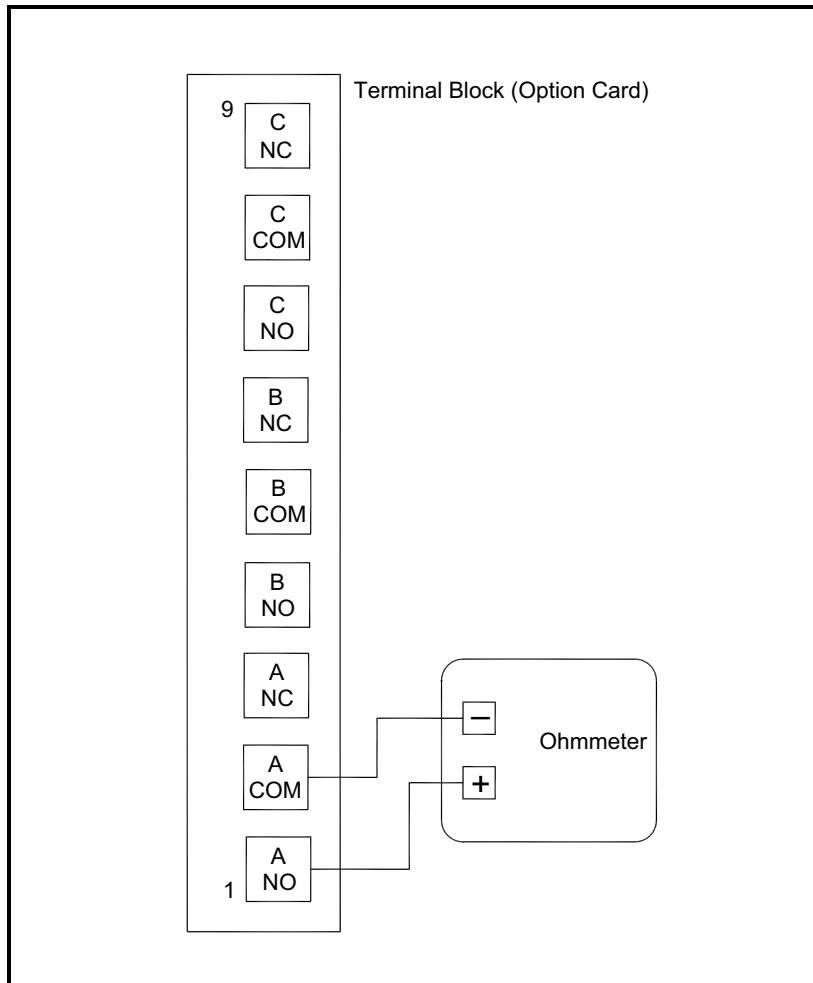
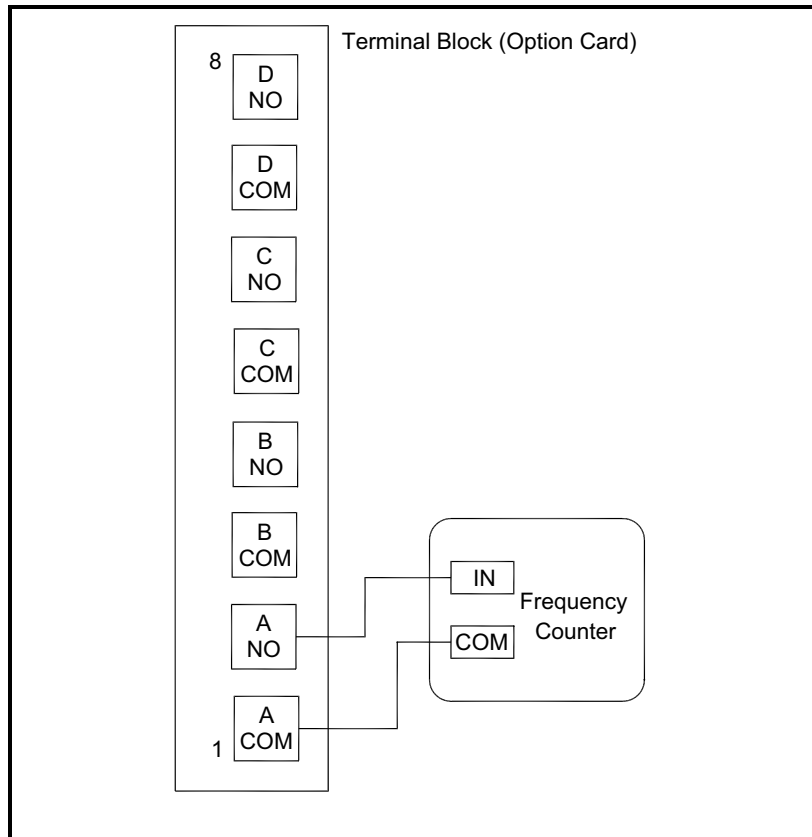
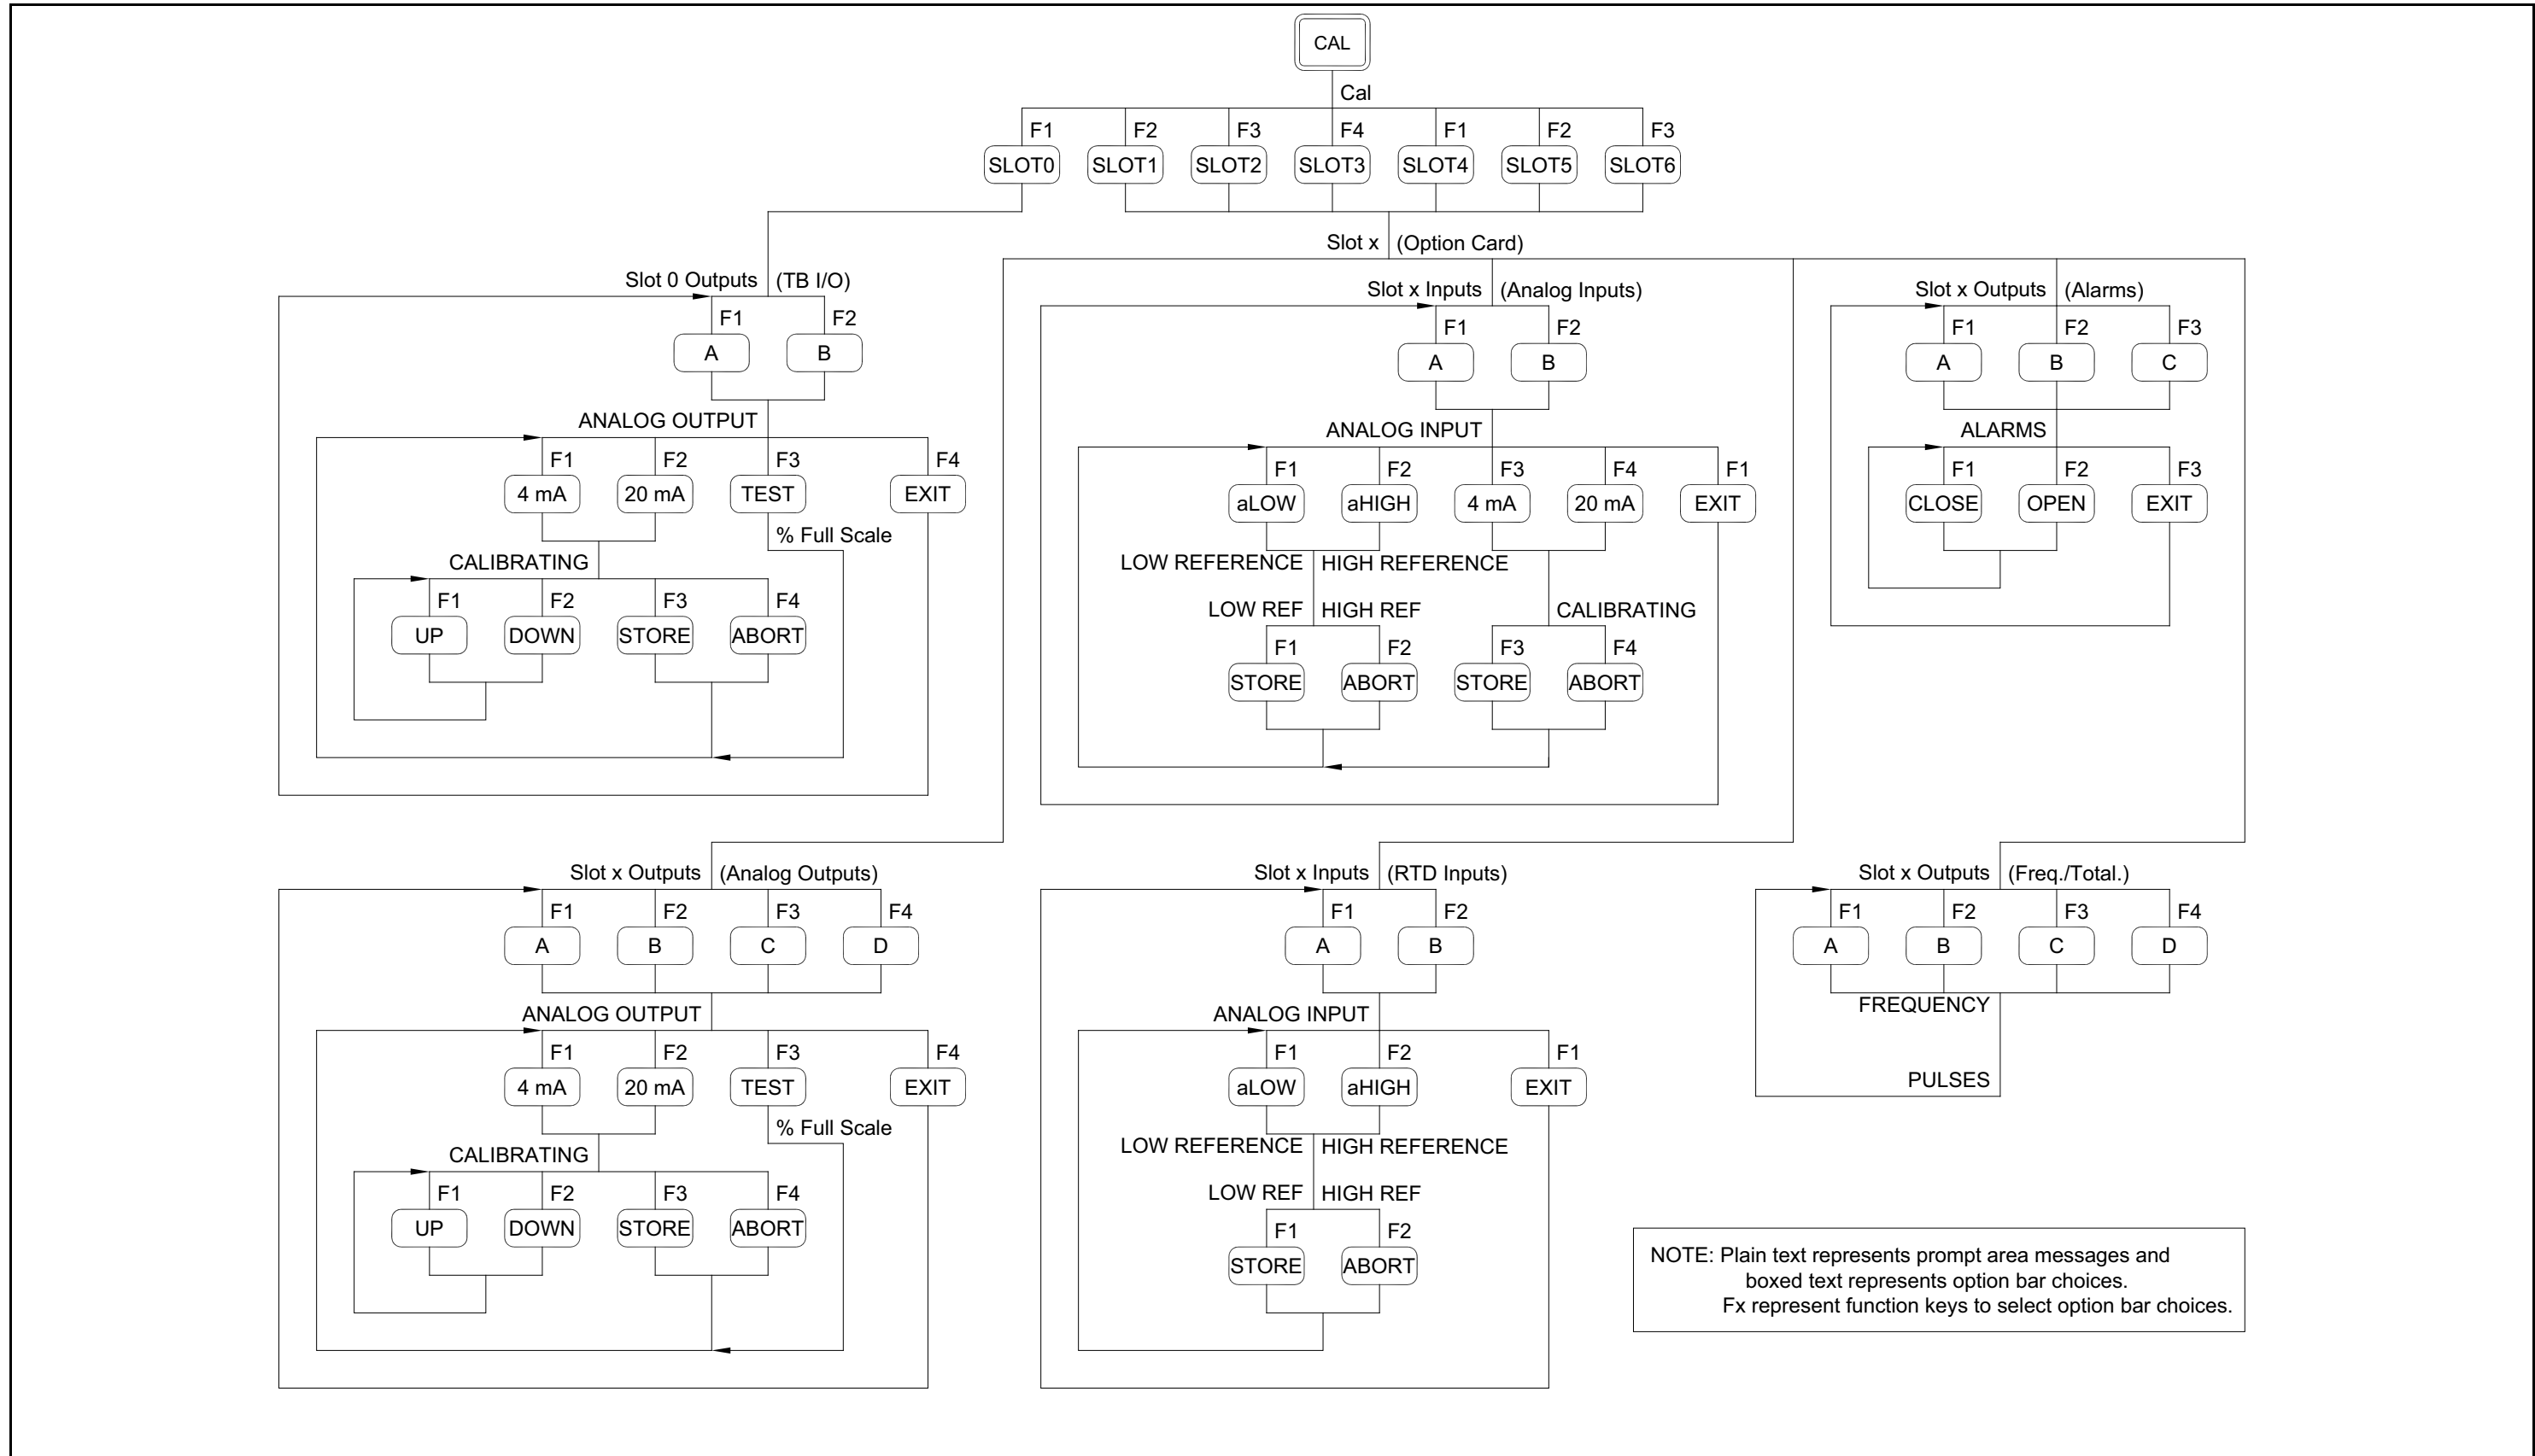

Figure 4: Typical Ohmmeter Connections
Figure 5: Frequency Counter Connections
Figure 6: Calibration Menu Map
Connect the **Slot X** analog output(s) (or an independent calibrated current source) to the analog input(s) on the option card, as shown in Figure 3 below. Refer to the menu map in Figure 6 on page 13 as a guide.
Alarm relays may be added to the Model DF868 by installing an *Alarms Option Card* in one (or more) of the six expansion slots. Each option card includes three alarm relays, which are designated as A, B, and C. To test the alarm relays, connect an ohmmeter to the option card terminal block as shown in Figure 4 below. Refer to the menu map in Figure 6 on page 13 as a guide.
**Note:** *The procedure for testing Alarm Relay A is identical to that for testing Alarm Relays B and C. However, make sure that the ohmmeter is connected to the desired normally-open or normally-closed contact of the currently selected relay. See Figure 4 on page 9 for the correct pin numbers on the option card terminal block.*
Totalizer/Frequency outputs may be added to the Model DF868 by installing a *Totalizer/Frequency Option Card* in one (or more) of the six expansion slots. Each option card includes four outputs, which are designated as A, B, C and D. To test the outputs, connect a frequency counter to the card's terminal block as shown in Figure 5 below. Refer to the menu map in Figure 6 on page 13 as a guide.